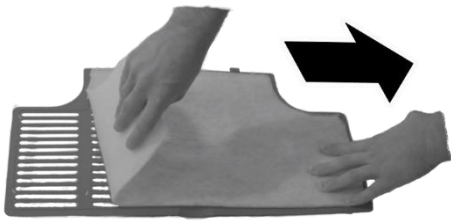

Fig. 29: Removing the cleaning filter
2. → Remove the old cleaning filter (Fig. 29).